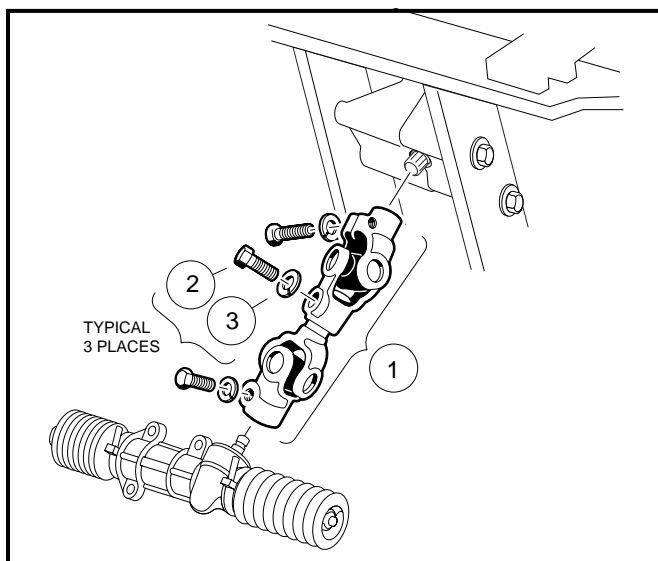

Figure 14-14 Compound Steering Joint
3. Remove the steering joint assembly **(Figure 14-14, Page 14-16)**.